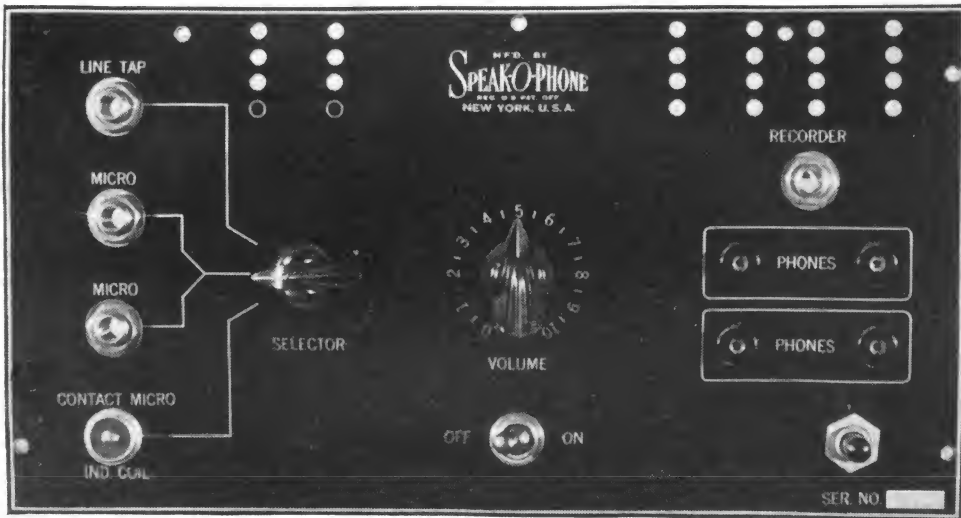

Figure 3. Amplifier control panel.
d. Insert the phone plug on the end of the telephone wire into the sound detector input jack marked MICRO (fig. 3).
e. Set the selector knob (fig. 3) so that it points to MICRO.
f. Plug in headphones by inserting the phone tips into the two phone tip jacks (fig. 3) *within one etched rectangle* on the sound detector panel. If two sets of headphones are to be used, insert the second set of phone tips in the two phone tip jacks within the other etched rectangle.
g. Turn amplifier on by throwing the toggle switch (fig. 3) at the bottom of the panel to ON position.
h. Turn VOLUME control knob (fig. 3) clockwise until a voice near the microphone can be heard with sufficient volume and clarity over the headphones.
b. Screw the connector at the end of the microphone cable to the input connector (fig. 3) marked CONTACT MICRO on the sound detector panel.
c. Set the selector knob (fig. 3) to point toward CONTACT MICRO.
c. Plug into the input jack marked LINE TAP (fig. 3) on the sound detector panel.
d. Set the selector knob (fig. 3) to point toward LINE TAP.
b. Screw connector at the other end of the induction coil cable onto the input connector (fig. 3) marked IND. COIL on the sound detector panel. This is the same connector to which the contact microphone is attached when used.
d. Selector Switch. The selector switch (figs. 3 and 4) is a three-position switch which directs the path of the signal from the input jack being used to the grids of the first or second amplifier stages, according to the nature of the signal being received.